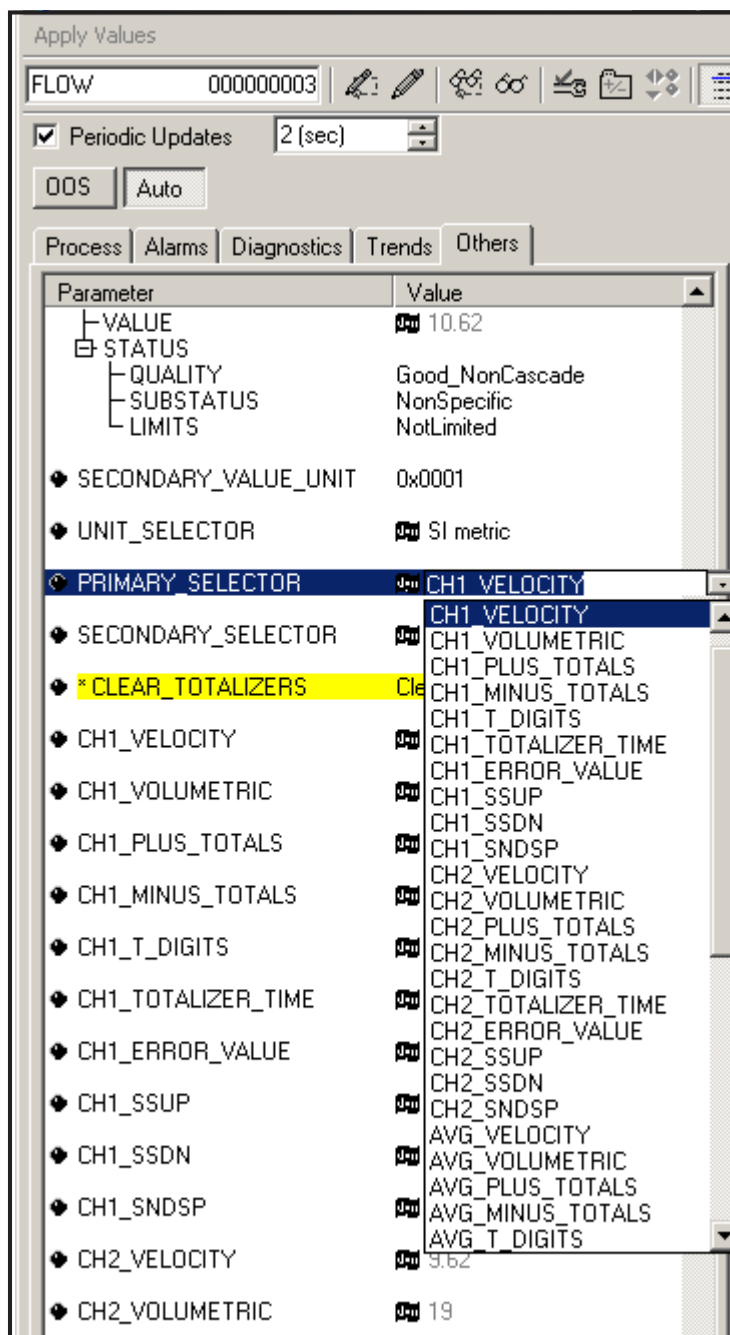

Figure 57: Primary Selector Drop Down List
2. Select the **Others** tab and open the drop down list for the PRIMARY_SELECTOR and SECONDARY_SELECTOR (refer to Figure 57 on page 145).
3. Choose the unit from the list (see Figure 57 on page 145).